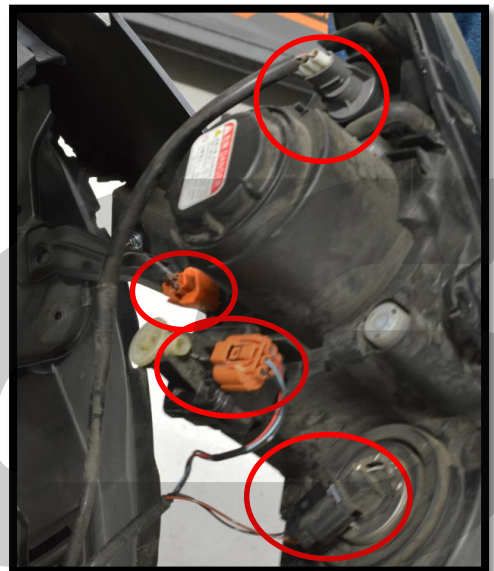

Figure 1h
- q) Gently pull on the headlight to release it from its mounting. Then, remove the four (4) electrical connectors from the backside of the headlight. Shown **circled in red** in **Figure 1h**. It will now be free to remove from the vehicle.